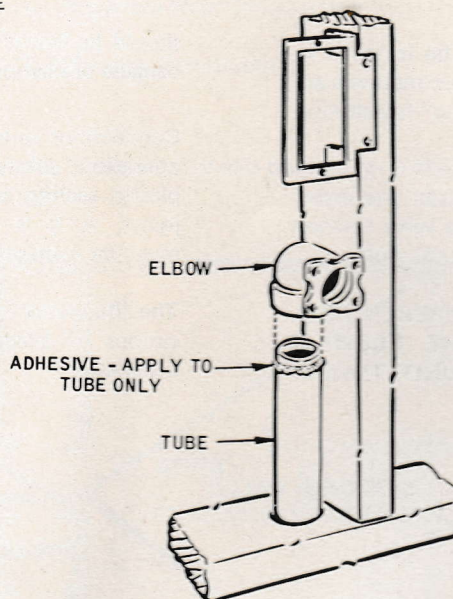

FIGURE 10 – MOUNTING ELBOW TO TUBING
4. Put rigid tubing through hole in plate and connect elbow to tubing using adhesive to seal the joint (Figure 10).